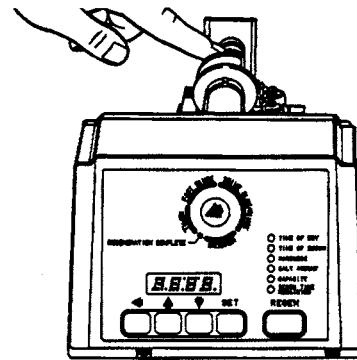
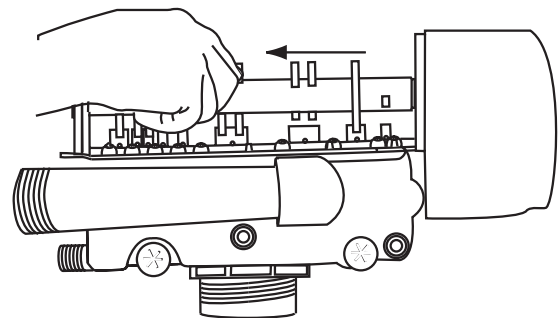

Figure 15
Figure 16
- To remove the camshaft or to reinstall it, the arrow on the shaft must be pointing at the line on the rear "hoop" of the top plate. This occurs when the indicator knob is rotated to the refill position. Press down on the back of the camshaft to disengage it from the rear "hoop" of the top plate, (Figure 15). Slide the camshaft back to disengage it from the timer, (Figure 16).